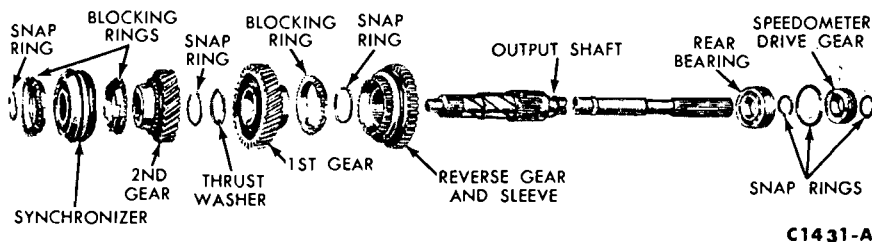
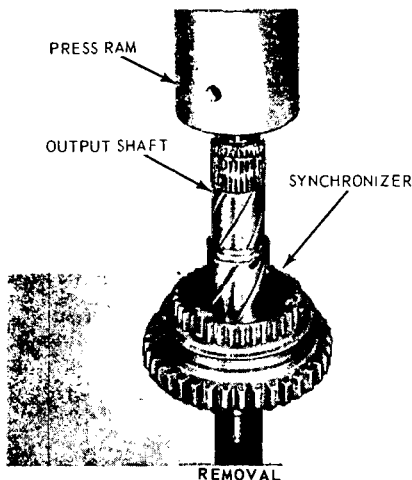

FIG. 12—Output Shaft — Disassembled
FIG. 13—Removing and Installing First and Reverse Synchronizer
ond speed gear (Fig. 12) off the shaft.
24. Remove the next snap ring from the output shaft. The first and reverse synchronizer hub is a press fit on the output shaft. To eliminate the possibility of damaging the synchronizer assembly, remove and install the synchronizer hub using an arbor press as shown in Fig. 13. **Do not attempt to remove or install the hub by hammering or prying.**
6. Slide the first and reverse gear and sleeve (Fig. 12) onto the output shaft with the teeth end of the gear facing toward the rear of the shaft. The first and reverse synchronizer hub is a press fit on the output shaft. To eliminate the possibility of damaging the synchronizer assembly, install the synchronizer hub using an arbor press as shown in Fig. 13. **Do not attempt to install the hub by hammering or prying.** Secure it in place with the snap ring.